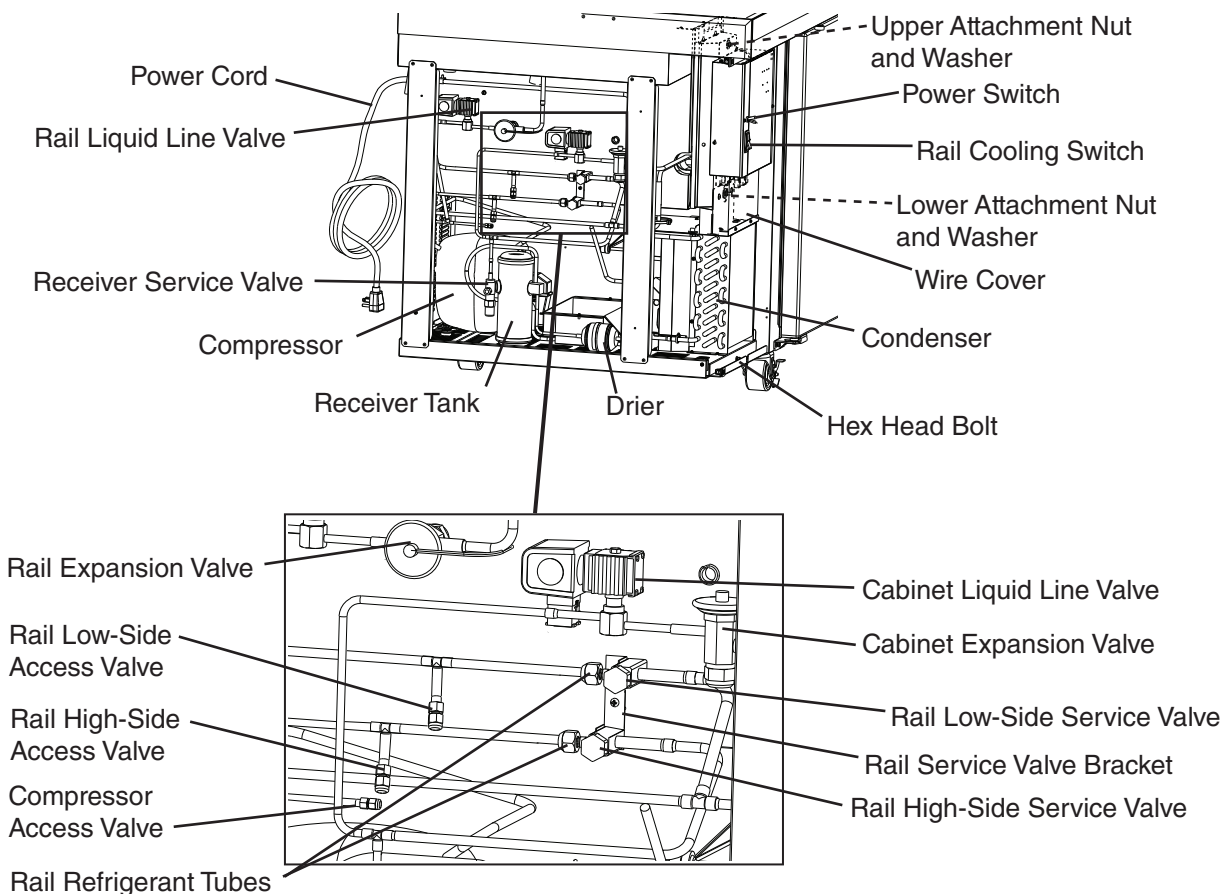

Fig. 1
- 3) Connect the gauge manifold hoses to the receiver service valve (high-side) and the compressor access valve (low-side). See Fig. 1.
- 8) Disconnect the rail refrigerant tubes from the rail service valves. Use a backup wrench when loosening the fittings. See Fig. 1.
- 12) Remove the upper and lower attachment nuts and washers from the control box and the hex head bolt from the base of the refrigeration cartridge. See Fig. 1.
- 3) Connect the gauge manifold hoses to the receiver service valve (high-side) and the rail low-side access valve. See Fig. 1.
- 10) Use a backup wrench and disconnect the rail refrigerant tubes from the rail high and low-side service valves. Use a backup wrench when loosening the fittings. See Fig. 1.
- 14) Remove the upper and lower attachment nuts and washers from the control box and the hex head bolt from the base of the refrigeration system cartridge. See Fig. 1.